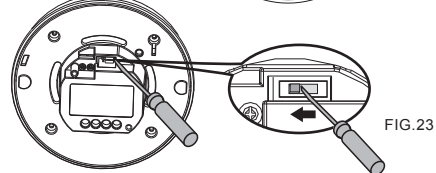

FIG.23
4.2.1.3 When movement is detected, the CCT551011/ CCT551012 will send a C-Bus control signal for controlling the C-Bus system's load on (See FIG.23). The output is common collector for use with C-Bus unit with auxiliary inputs.